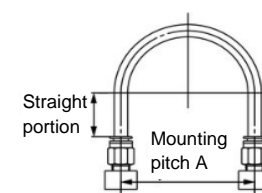
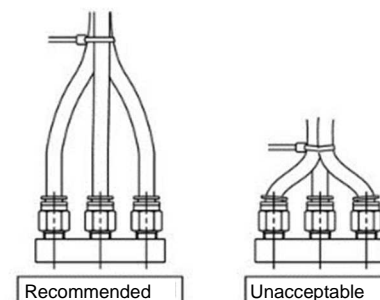

Figure 1
Figure 2
- When connecting tubes using the one-touch fittings, provide some spare tube length as shown in Figure 1. Also, do not apply external force to the fittings when binding tubes with bands, etc. (see figure 2.)